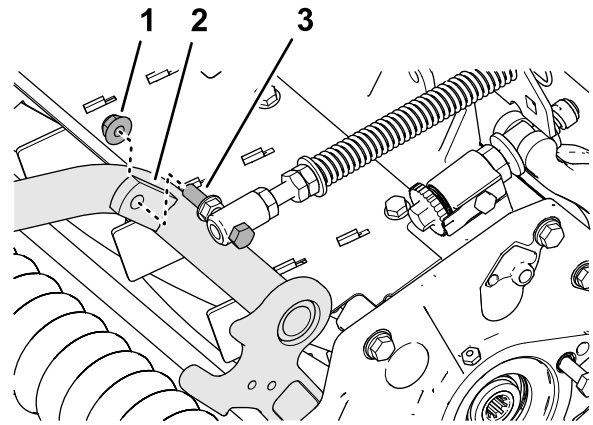

Figure 10
4. Assemble the cap screw of the turf compensation spring to the right tab of the carrier frame (Figure 10) with the flange locknut (3/8 inch).